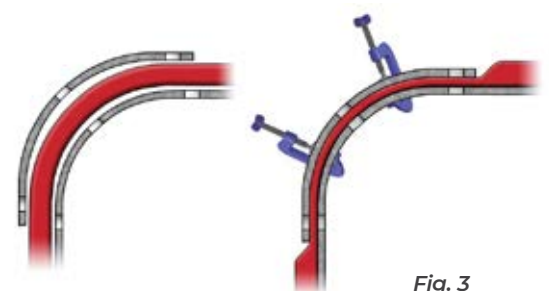

Fig. 3
- Compress the expansion joint with a g-clamp either side of the middle hole of the corner clamp bar section, so that the clamp bar holes line up with those in the duct flange. (See: Fig. 3)